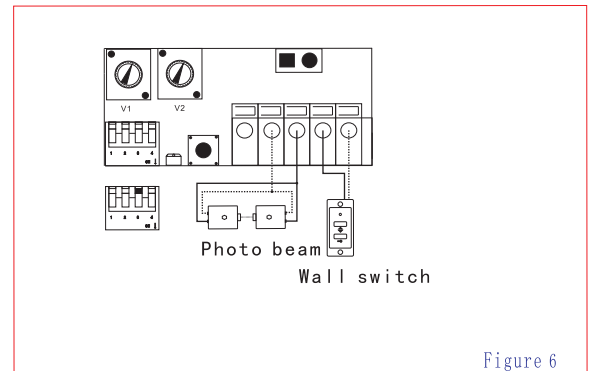

Figure 6
1.3 Using a suitable prop, e.g. step ladder together with soft padding to protect door surface under the door roll on right hand end to support (see Fig 6).
1.5 Switch the opener into manual operation mode by pulling Manual Release Handle to make the opener drive able to rotate freely (see Fig 6).
1.6 Raise the door carefully, insert the opener into the door axle and ensure the two opener forks holds the door drum wheel support. Push the opener inside into the door roll as deep as possible (see Fig.6).
- Wire the Beam as shown at Figure 6 (for detail instruction, please refer to the instruction of the device) and connect to Terminals 2 and 3.
(see Figure 6).
Note: requires Normally Open (N/O), dry contacts. Connect the two wires into the Terminal 4 and 5 respectively.(see Figure 6) .